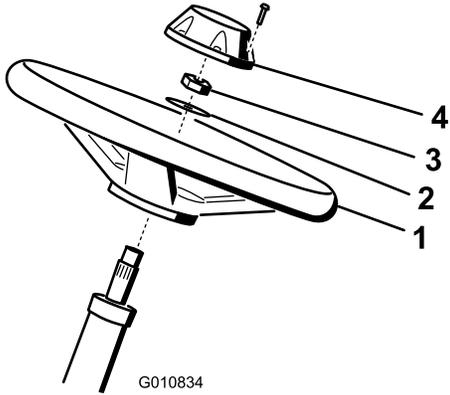

Figure 4
1. Slide the steering wheel onto the steering shaft (Figure 4).
2. Slide the washer onto the steering shaft (Figure 4).
3. Secure the steering wheel to the shaft with a locknut and tighten it to 27 to 35 N·m (20 to 26 ft-lb) (Figure 4).
4. Install the cap to the steering wheel and secure it with 6 bolts (Figure 4).